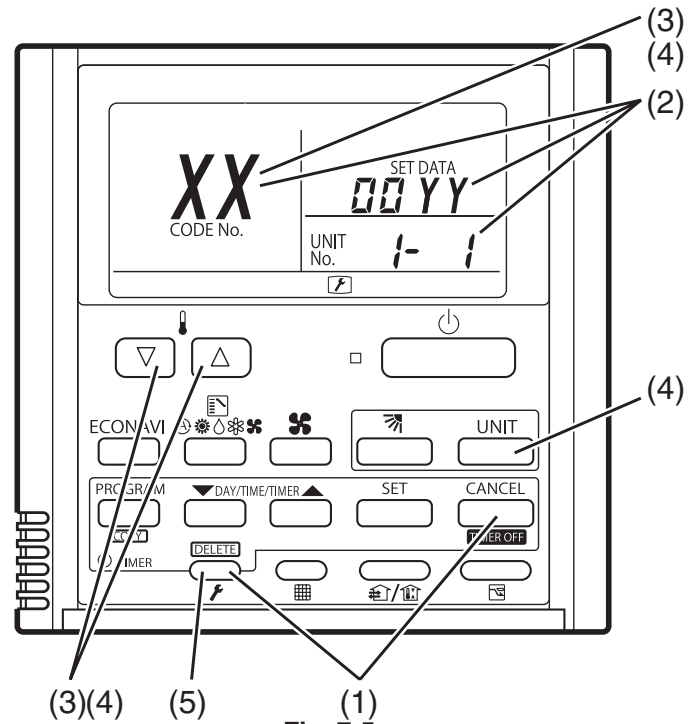

Fig. 7-5
- (1) Press and hold the  and  buttons simultaneously for 4 seconds or longer.
- (2) The unit No. "X-X" (main unit No.), item code "XX" (sensor address), and servicing monitor "00 YY" (sensor temperature) are displayed on the remote controller LCD display. (See Fig. 7-5 at right.)
- (3) Press the temperature setting  /  buttons and select the item code to the address of the sensor to monitor.
- (4) If group control is in effect, press the  button to select the unit to monitor. Press the temperature setting buttons to select the item code to change.
- (5) Press the  button to return to normal remote controller display.